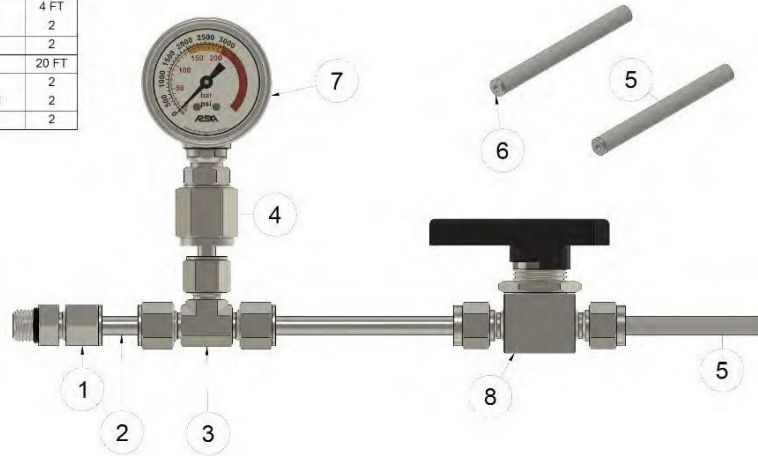
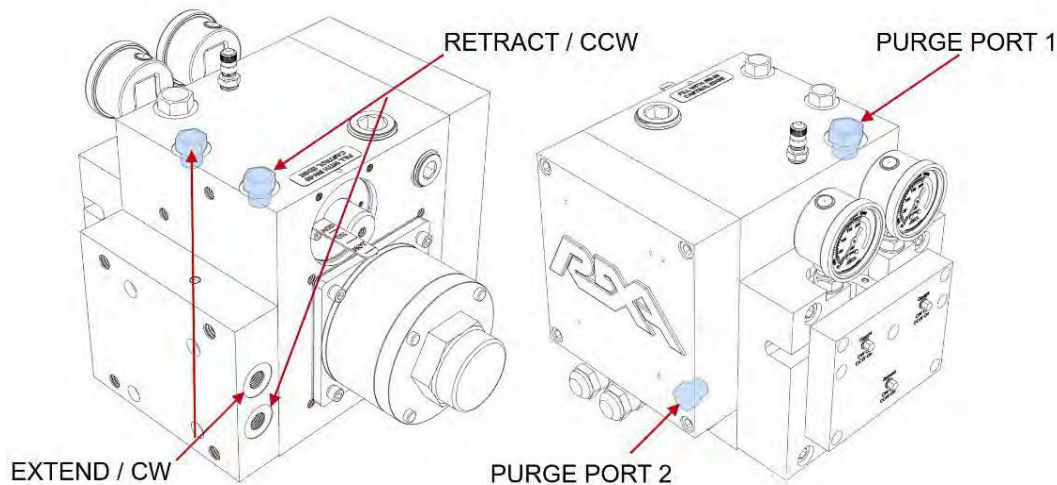

Figure 21: Bleed Kit (PN: K09275)
Figure 23: Extend/CW and Retract/CCW Ports
NOTE: To purge the actuator of air, it is recommended that you use the REXA bleed kit. See Figure 21 for details.
4. Attach the REXA bleed kit in Figure 21 to the open ports Extend/CW and Retract/CCW in Figure 23. Follow the hydraulic lines to differentiate between pressure directions.